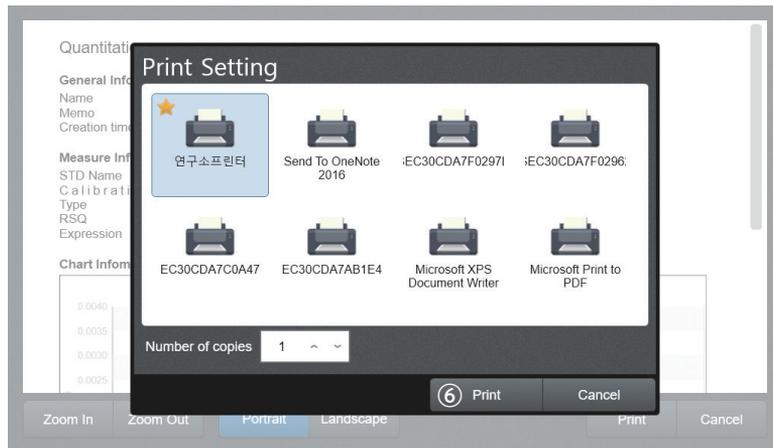

Fig. 4.19
17. [Fig. 4.19] Set the printer and number of pages to print on the printer settings screen.
18. [Fig. 4.19] Press the ⑥ **Print** button to start printing.